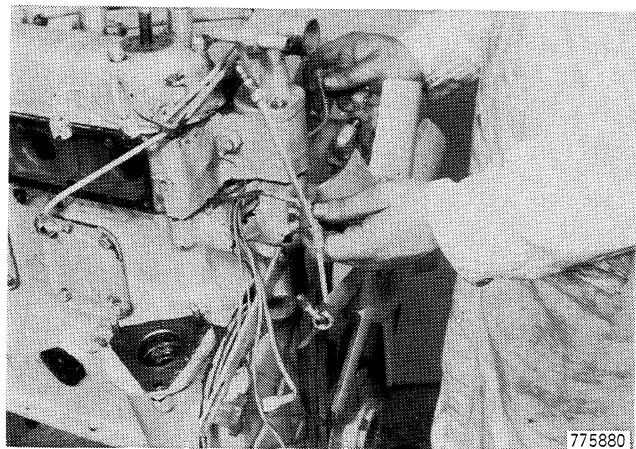

Figure 172
- Install injector return tube between cylinder head and engine block, Figure 172. Tighten fitting.